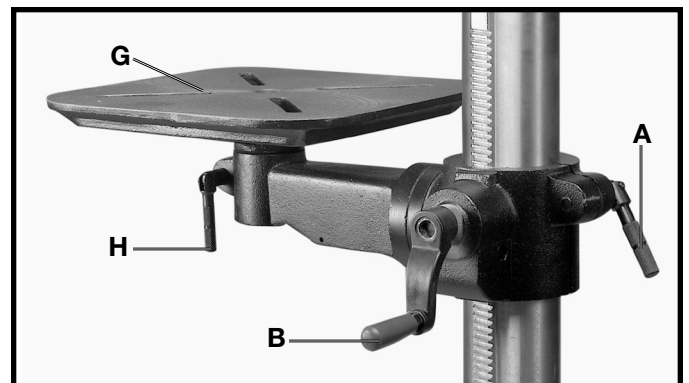

Fig. 23
1. The table can be raised or lowered on the drill press column by loosening the table clamp (A) Fig. 23, and turning the table raising and lowering handle (B). After the table is at the desired height, tighten clamp (A) Fig. 23. **NOTE:** Final positioning of the drill press table should always be from the bottom to the up position.
2. The table can be rotated 360 degrees by loosening clamp (H) Fig. 23, rotate table to desired position and tighten clamp (H).